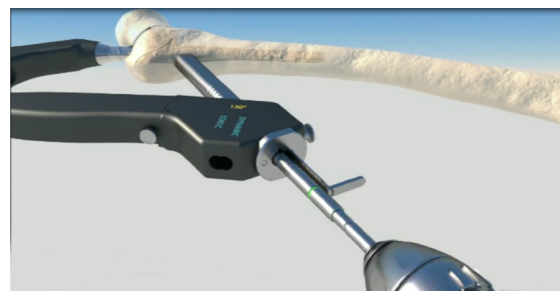

Figure 14a
- Use a medullary cavity expansion drill to drill holes, pay attention to the depth markings on the drill bit, and the depth should be consistent with the measured depth. If necessary, a tap can be used to establish the nail path (Figure 14a).